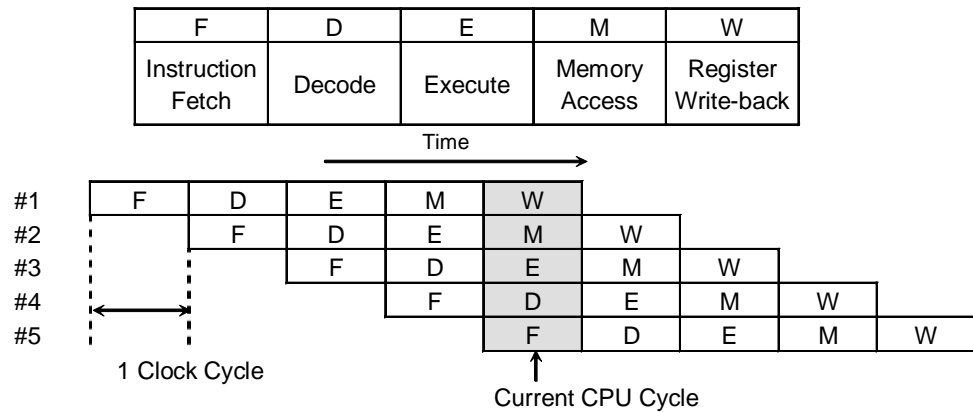

Figure 5-1 Five CPU Pipeline Stages
As described in Section 2.5, *Pipeline Architecture*, the processing of an instruction is broken down into a sequence of simpler suboperations. Because tasks required to process an instruction are fragmented, an instruction does not need the entire hardware resources of the execution unit. Each suboperation is performed by a separate hardware section called a *stage*, and each stage passes its result to a succeeding stage. The TX19A pipeline has five stages, Fetch (F), Decode (D), Execute (E), Memory Access (M) and Register Write-back (W). For example, after an instruction completes the D stage, it can proceed to the E stage while the subsequent instruction can advance into the D stage. Each of the five pipe stages requires approximately one clock cycle. Therefore, once the pipeline has been filled, the execution of five instructions is overlapped at a time, as shown in Figure 5-1.